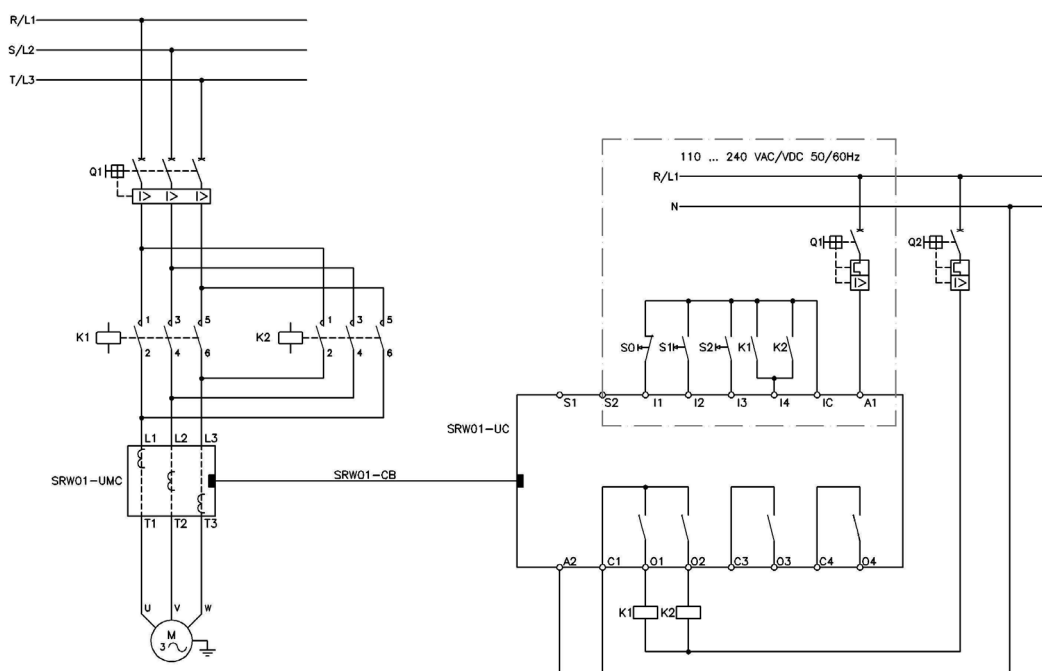

Figure 5.9 - Connection scheme for the Reverter Starting Operation Mode using digital inputs at 24 Vdc and driven by pushbuttons (P230 = 1)
The scheme on figure 5.9 shows an example of the use of the Control Unit (UC) on the Reverter Starting operation mode with drive through digital inputs (P229 or P232 = 0) at 24 Vdc using three wires control logic (pushbuttons) (P230 = 1).